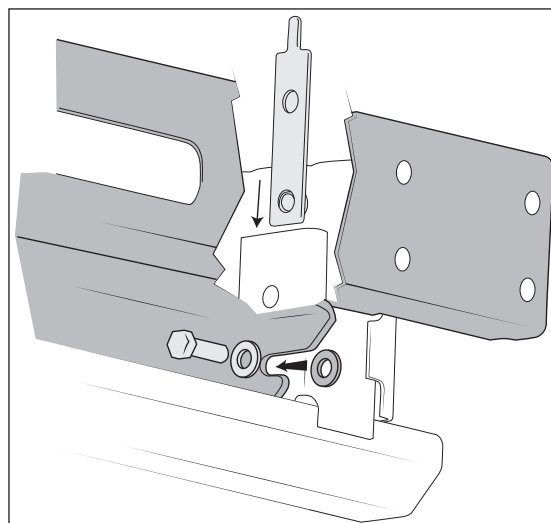

Figure 8
1. If Installing the optional winch mount, align the winch mount and bolt the winch mount to the lower frame attachment points using the M12 hex head bolts, washers, and nut plate (fig. 8).